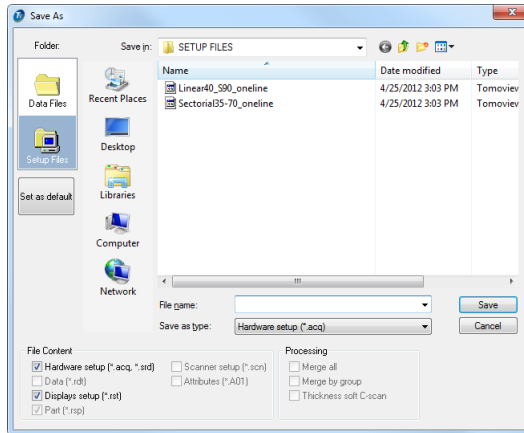

Figure 4-3 The Save As dialog box
2. In the **Save As** dialog box that appears (see Figure 4-3 on page 230):